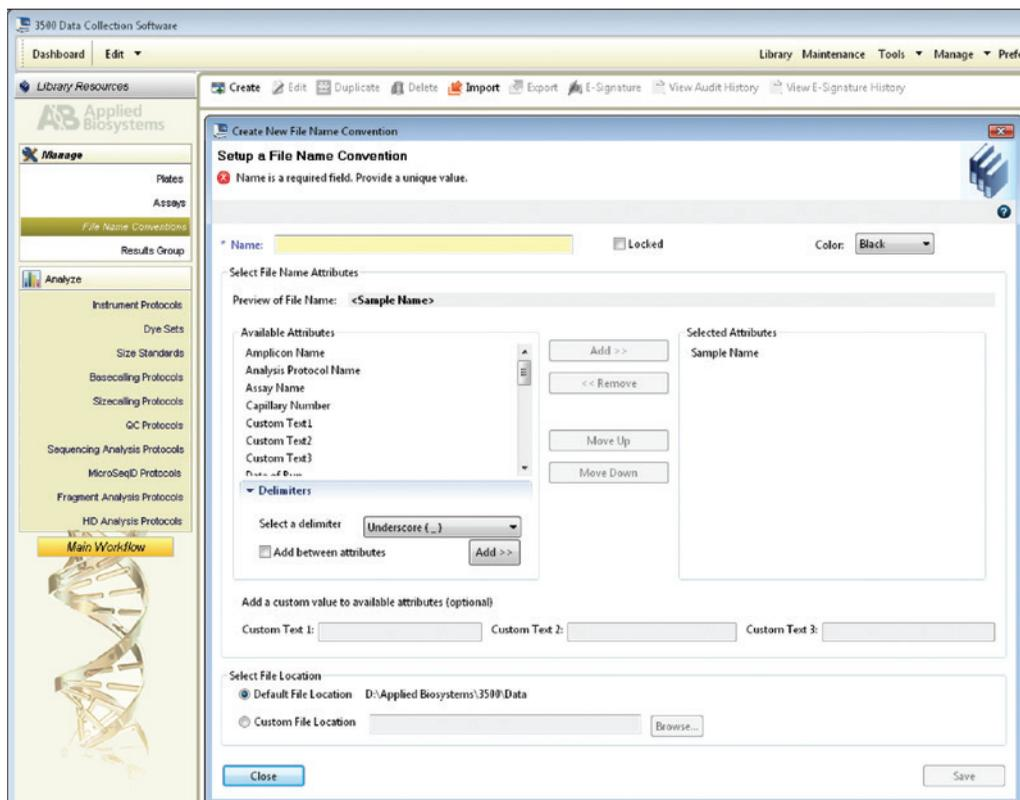

Figure 7. The Create New File Name Convention window.
2.e. To create a new File Name Convention (Figure 7), navigate to the Library. Select “File Name Conventions”, and then select “Create”. Alternatively, a previously created File Name Convention may be used.